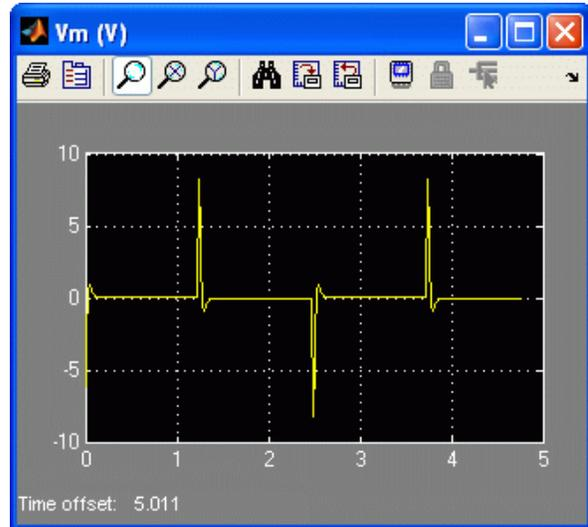

Figure 10: PV control input voltage.
5. Open the load shaft position scope, *theta_l (rad)*, and the motor input voltage scope, *Vm (V)*.
7. Select QUARC | Start to begin running the controller. The scopes should be displaying responses similar to figures Figure 9 and Figure 10. Note that in the *theta_l (rad)* scope, the yellow trace is the setpoint position while the purple trace is the measured position.